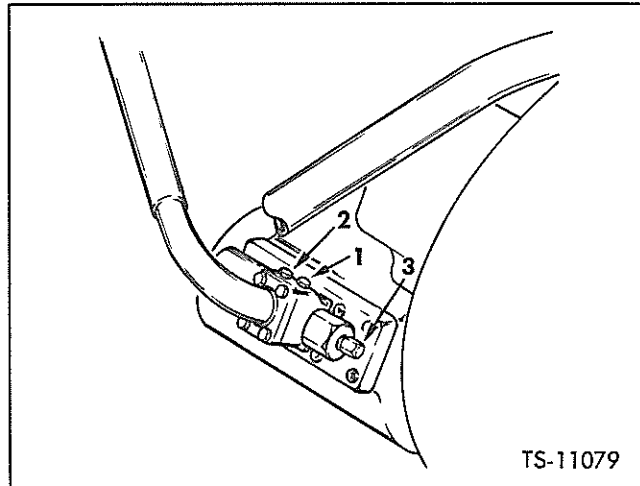

Fig. 30. Steering Pump Pressure Port and Adjustment
2. Install two 3000 psi capacity gauges, one at the steering pump primary section port, Item 1 and one at the secondary section port, Item 2. See Figure 30.
5. Remove acorn nut, Item 3 and o-ring on steer pump valve. See Figure 30.